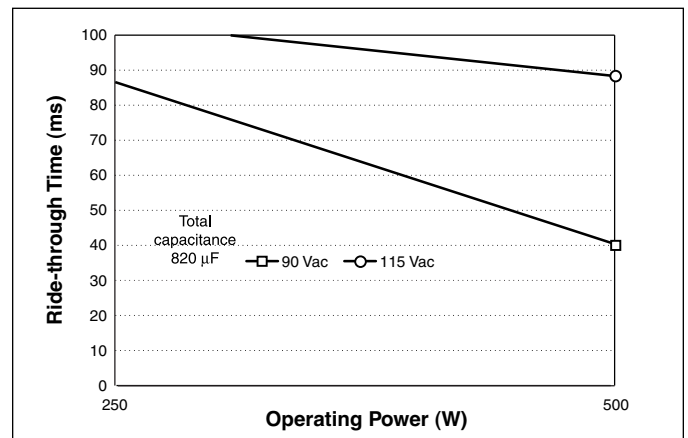

Figure 9-15 — Ride-through time vs. operating power
**Determining Ride-through Time.** Figure 9-15 illustrates ride-through time as a function of line voltage and output power, and shows that at a nominal line of 90 Vac, ride-through would be 68 ms. Ride-through time is a function of line voltage.